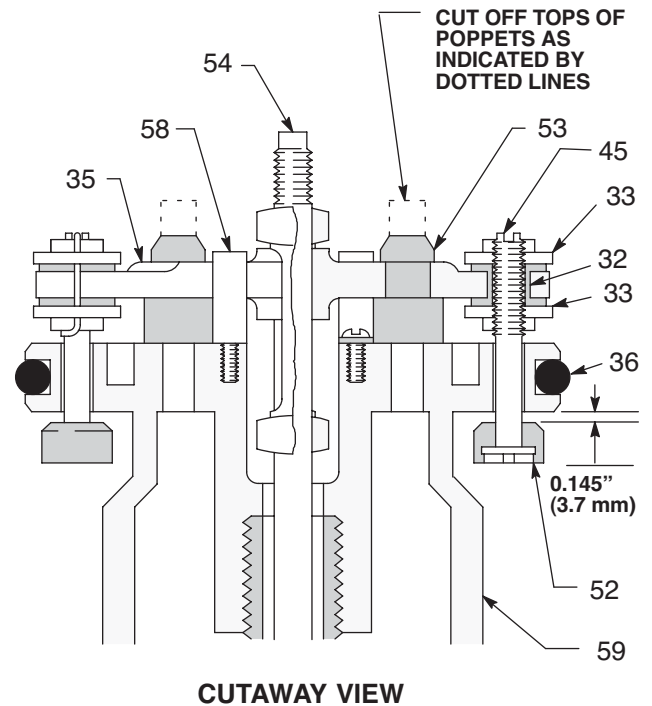

FIG. 17
- Install the poppets (52) on the valve stems (45). Pull the exhaust valve poppets (53) into the valve actuator (35) and clip off the top parts shown with dotted lines. (FIG. 17)
6. Install the bottom adjusting nuts (33) on the valve stems (45) and screw the stems into the grommets (32). Screw the top nuts (33) on the stems. Tighten the nuts (33) just enough to slightly compress the grommet (32). Before installing the lockwires (34) in the adjusting nuts, use the special gauge, Part No. 171818, to adjust the transfer valve so there is 0.145 in. (3.7 mm) clearance between the poppets (52) and the seat when it is open. (FIG. 17)